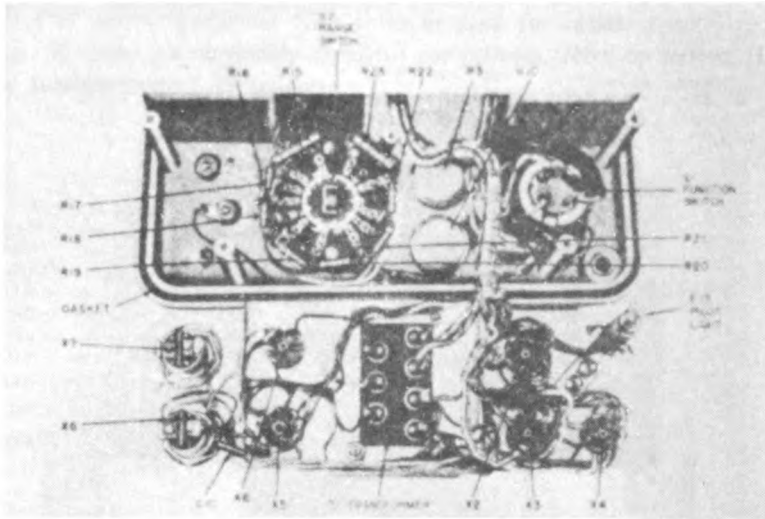

Figure 14. Electronic Multimeter TS-505/U, showing tube and transformer shelf removed.
c. The metal shelf containing the transformer, tubes, tube sockets, pilot light, pilot light socket, and tube shields should be placed in stock if it is in good condition. If the transformer and tube sockets are undamaged, unfasten the shelf (fig. 14) by removing the two screws and the two studs which hold it in place. Place the complete unit, including cables, in stock for future use. If the metal deck is so badly bent that it cannot be salvaged, remove transformer (T1), pilot light, pilot socket, and tube sockets and place them in stock for re-use.